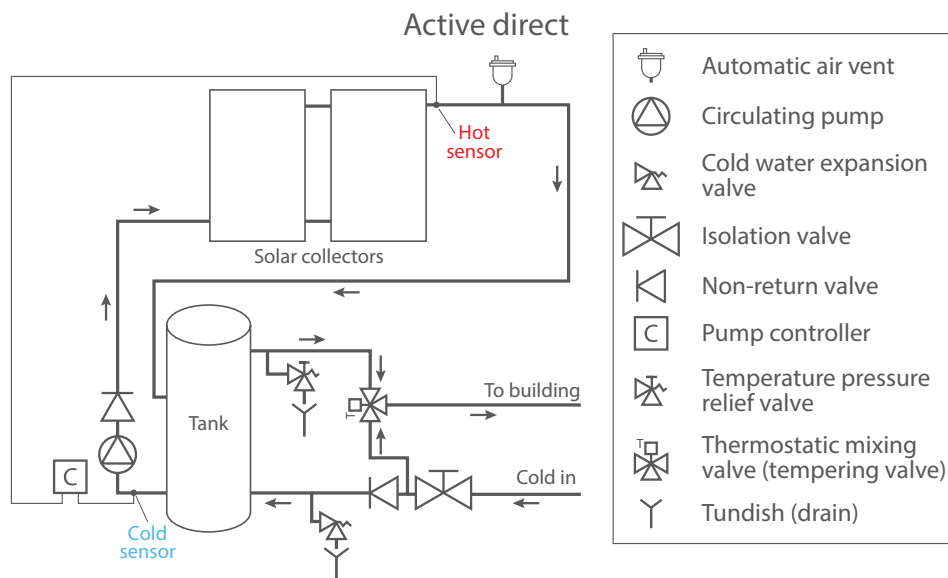

Figure 29: Location Of Controller Temperature Sensors
- Circulation pumps are operated by controllers that measure the temperature at the solar collector and the storage tank to determine whether pump operation is appropriate or not (Figure 29). Most system manufacturers will provide designated connection points for the temperature sensors. The connection points are typically located near the hot water output at the collector array and near the bottom of the storage tank.